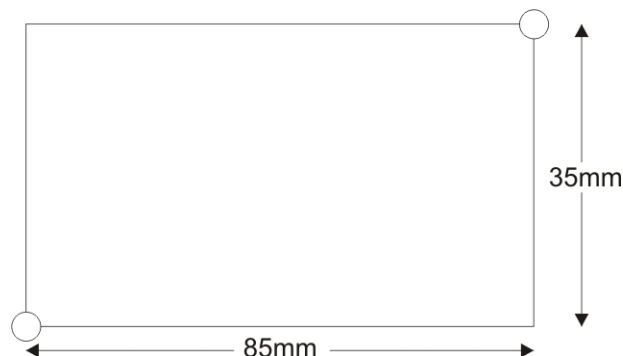

Fig 3.1 – Mounting holes dimensions details of Temperature Transmitter
- ii) Now fix the temperature transmitter on the solar panel table (piling) with 2nos 3/16" x 2" round head screw provided with the shipment. As in fig 3.1